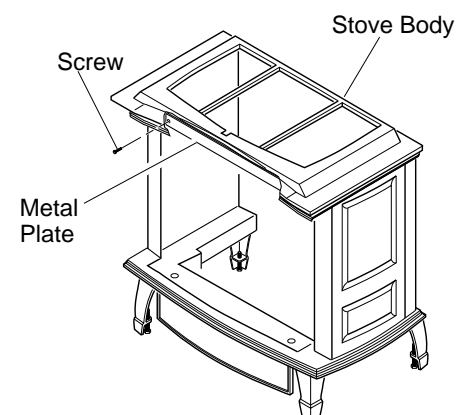

Figure 15 - Removing Metal Plate from Stove Body
17. Remove the two screws that secure the metal plate located across the front section at the top of the stove body (see Figure 15). Discard these screws and metal plate. They are for vent-free use only.